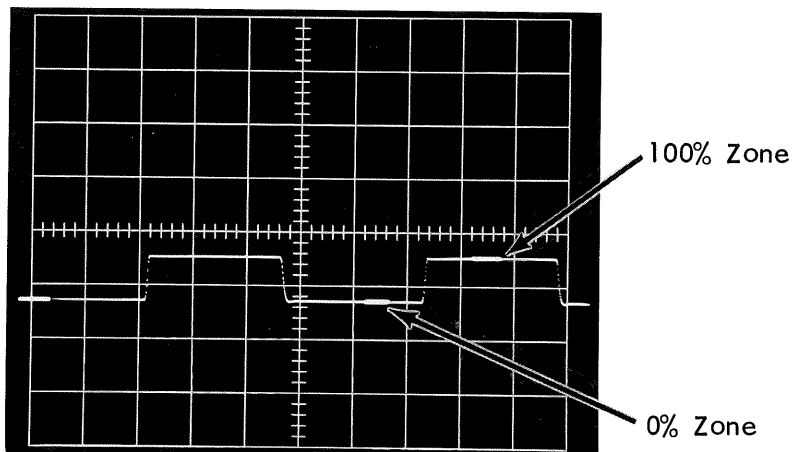

Figure 2-31
3. On the 6R1A, set the CRT INTENSIFICATION START TO STOP control down (off). Position the A 0% and 100% zones appropriately on the waveform. See Figure 2-31.